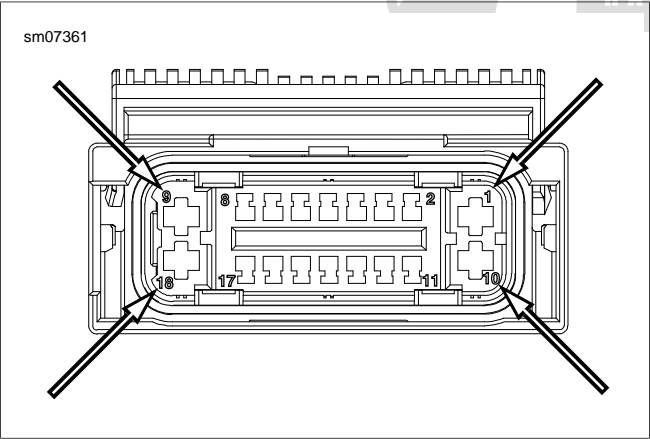

Figure A-74. Tyco MCP Sealed Connector Cavity Numbers
1. See Figure A-74. Locate the wire lead cavity by number.